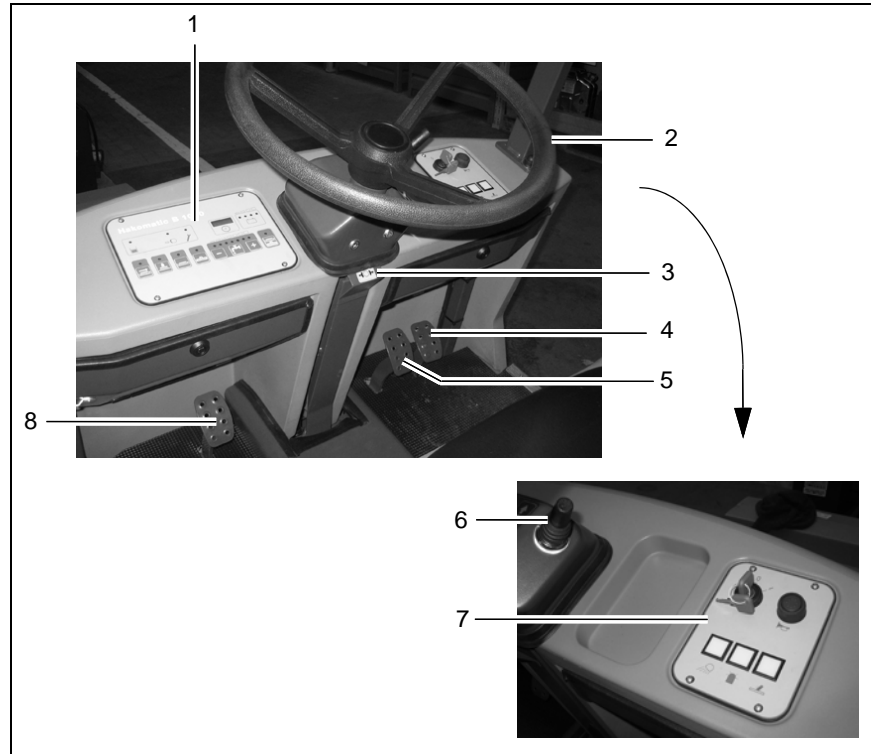
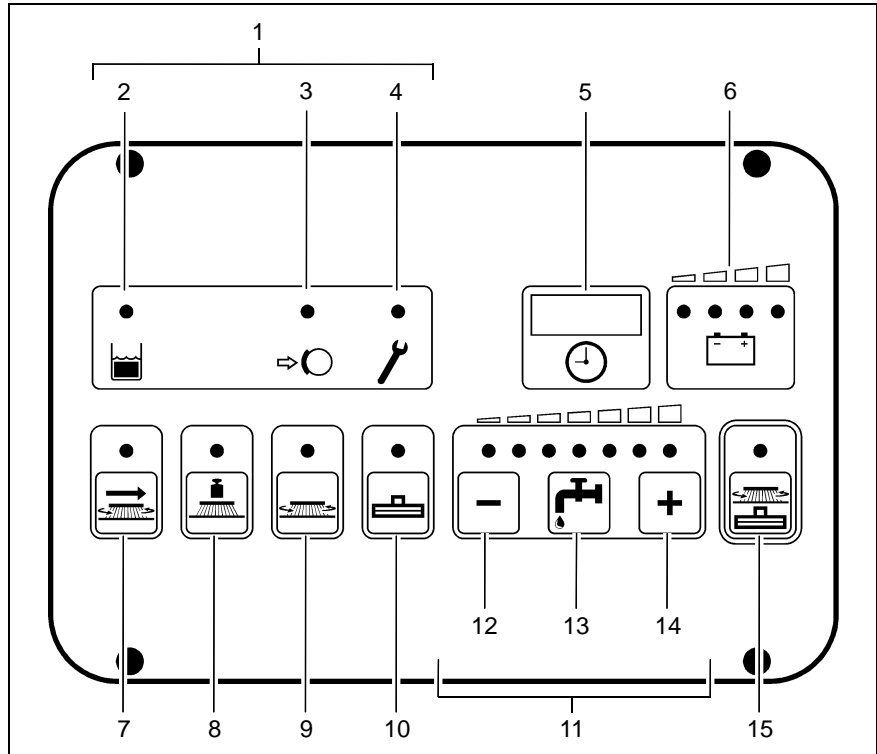

Fig. 18
Fig. 19
(Fig. 18/1)
(Fig. 18/2)
(Fig. 18/3)
(Fig. 18/4)
- Before actuating the accelerator, use the driving direction switch (Fig. 18/6) to set the direction of travel: forwards or reverse.
- To stop securely, apply the service brake (Fig. 18/5).
An acoustic warning signal (buzzer) is issued should the hydraulic motor overload. At the same time, the red alarm lamp (Fig. 18/4) lights up in the left-hand operating panel (Fig. 19/1) and the driving speed is reduced by approx. 50%. In addition, an error code appears in the service indicator (Fig. 19/5).
(Fig. 18/5)
(Fig. 18/6)
(Fig. 18/7)
(Fig. 18/8)
- When the parking brake is applied, the corresponding control lamp on the operating panel (Fig. 19/3) lights up red.
Before getting out of the vehicle apply the parking brake, set the driving direction switch (Fig. 18/6) to its neutral position and switch the key switch to off.
3.2.2 Left-hand operating panel (Fig. 19)
(Fig. 19/1) The indicator field enables the scrubber drier to provide feedback on the operating status of the vehicle. This only relates to operating states which cannot be switched on and off via the operating panel: recovery tank full, parking brake applied and error message.
(Fig. 19/2) The yellow control lamp lights up when the recovery tank has reached its maximum fill level. Also, a "beep" signal is issued every 15 seconds. In this case, a float switch switches the suction turbine off and the squeegee is raised.
(Fig. 19/3) The control lamp lights up red when the parking brake has been actuated via the pedal to the left of the steering column. If the traction drive is switched on, an acoustic signal is also issued.
Indicator for function faults (Fig. 19/4)
At the same time, a four-digit code appears in the display of the service indicator (Fig. 19/5). This error code infers which fault has occurred (refer to Section 3.5.1). At the same time, the control lamps flash and an acoustic, pulsating signal is issued.
(Fig. 19/5) The four-digit LED serves to display the operating hours.
(Fig. 19/5) The same LED also serves for a more accurate determination of function faults.
(Fig. 19/6) After switching on the key switch, all four lamps light up when the battery is fully
(Fig. 19/8) This button is used
(Fig. 19/9) This button serves
(Fig. 19/10) This button serves
Buttons controlling the solution supply (Fig. 19/11)
Button to reduce solution quantity (Fig. 19/12)
Button to switch the solution supply on and off (Fig. 19/13)
(Fig. 19/14) The button serves to increase the solution quantity supplied to the brushes. The solution quantity can be increased in seven stages (see above). The selected stage remains programmed (last station memory) even if the machine is switched off temporarily.
(Fig. 19/15) After pressing the green Hako button, the most important basic functions for standard cleaning are automatically activated/deactivated in the correct sequence of use: suction turbine, brush rotation, solution feed and lowering or raising the brushes and squeegee. When the vehicle is ready for use in accordance with requirements, it can be set into operation simply and quickly by pressing the Hako button. When the Hako button has been pressed, the green control lamp lights up.